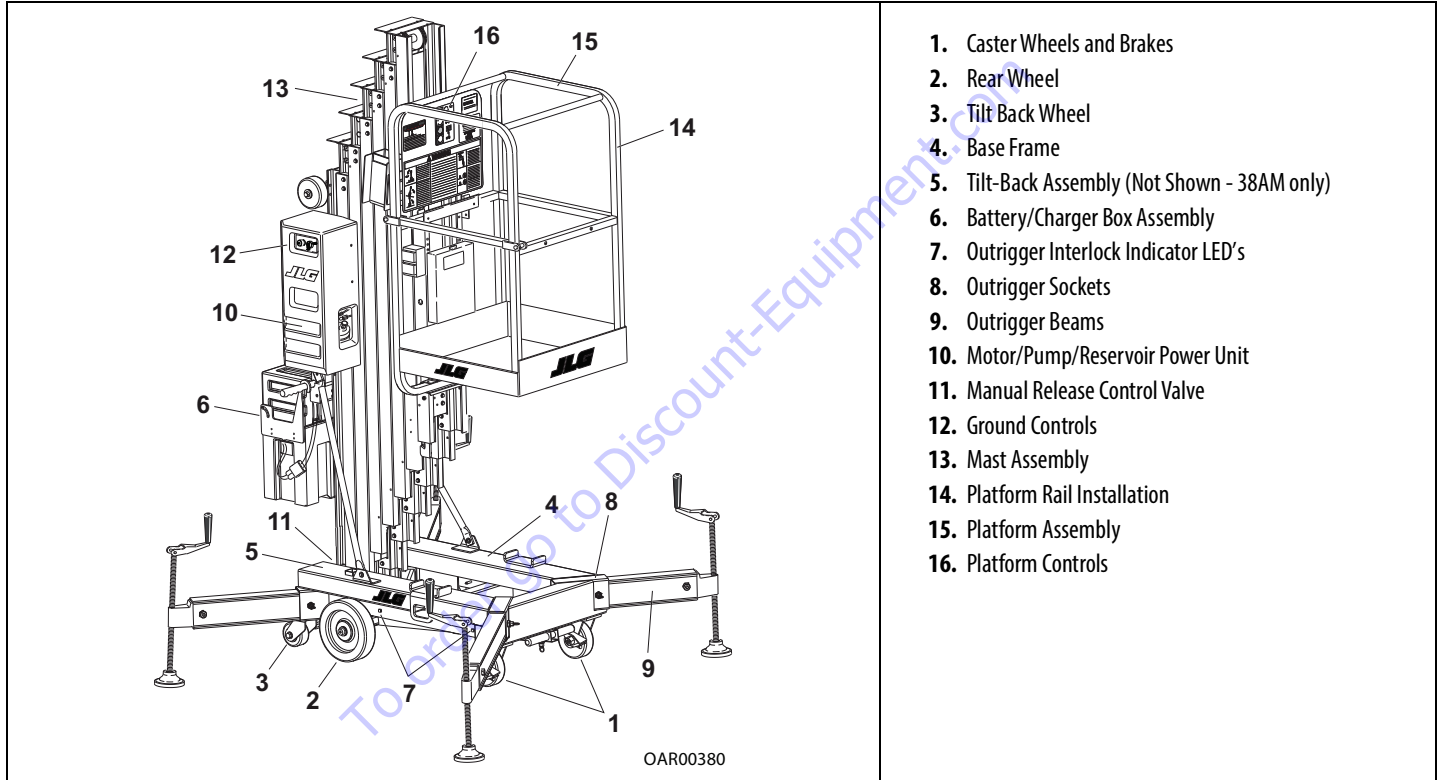

Figure 2-1. Daily Walk-Around inspection
4. **Walk-Around Inspection** – Refer to Figure 2-1. on page 2-7.
Begin Walk-Around Inspection at item 1 (See Figure 2-1. on page 2-7). Continue around machine checking each item in this check list.